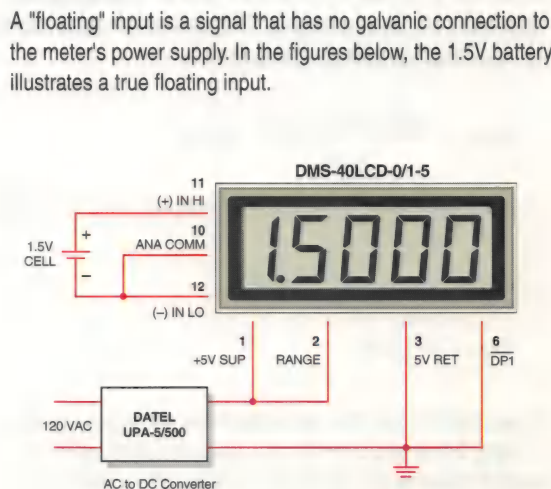
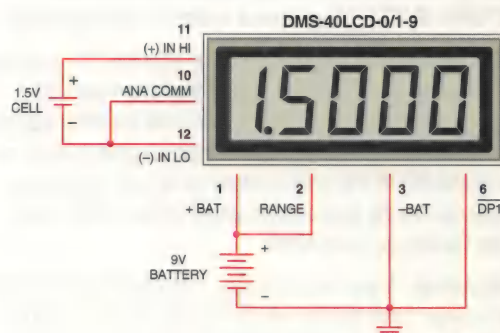

Figure 5. Floating Input Measurements
Figure 6. Floating Input Measurements
- 4. Floating Signal Source Measurements:** Floating signals can be measured using the circuits shown in Figures 5 and 6. Figure 5 uses a 5V-powered meter. Figure 6 uses a 9V-powered meter. Both figures show a DMS-40LCD-0/1 with pin 2 tied to pin 1 yielding a  $\pm 2V$  input range. Connecting pin 10 (ANALOG COMMON) to (-) INPUT LO (pin 12) provides the reference point for the meter's input.